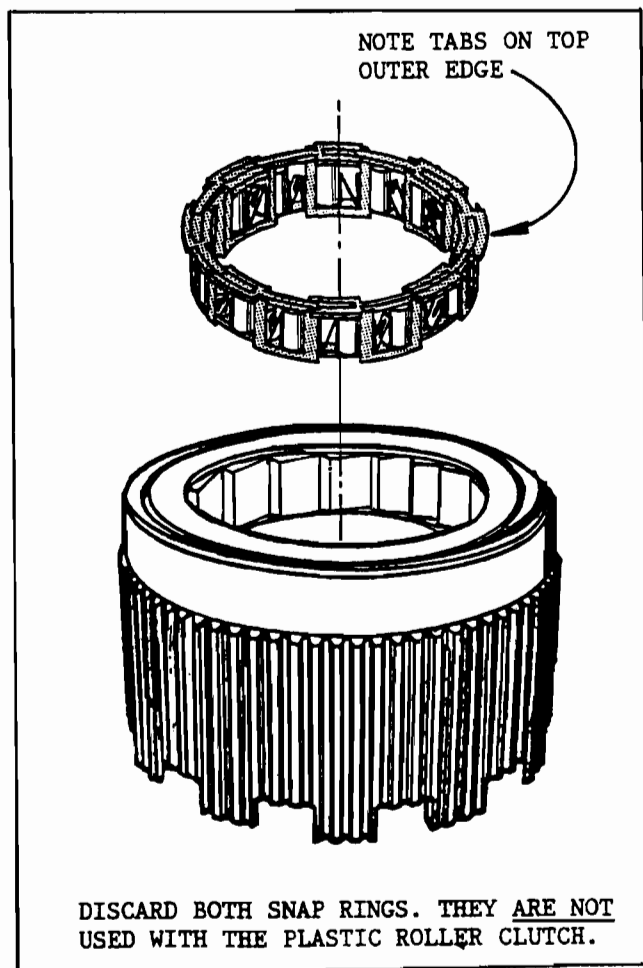

Figure 20
1. Install new unitized plastic cage low one-way clutch assembly (F3TZ-7A089-C) into the rear of the reverse hub assembly Figure 20.